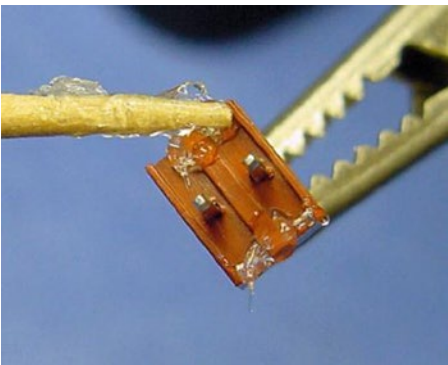

Figure 23-7. Adhesive being applied to edges of Molex connector
1. With a disposable toothpick, apply a bit of adhesive to the edges (not the metal leads) of the Molex headers (see Figure 23-7). This will keep them fully seated on the board during soldering.